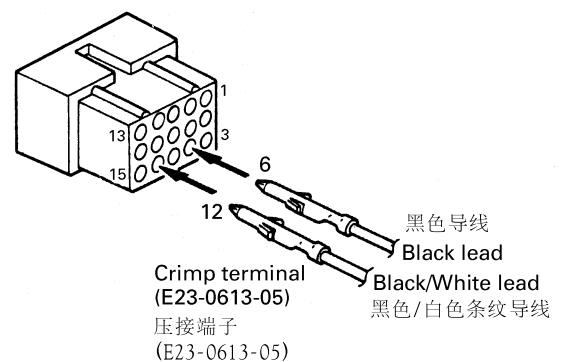

Fig. 4-3 / 图 4-3
3. Reinsert the terminal with the black and white stripe lead into hole number 12, and the terminal with the black lead into hole number 6. (Fig. 4-3)
3. 将黑白条纹的导线重新插入端子的12号孔, 将黑色导线重新插入6号孔。(图4-3)。